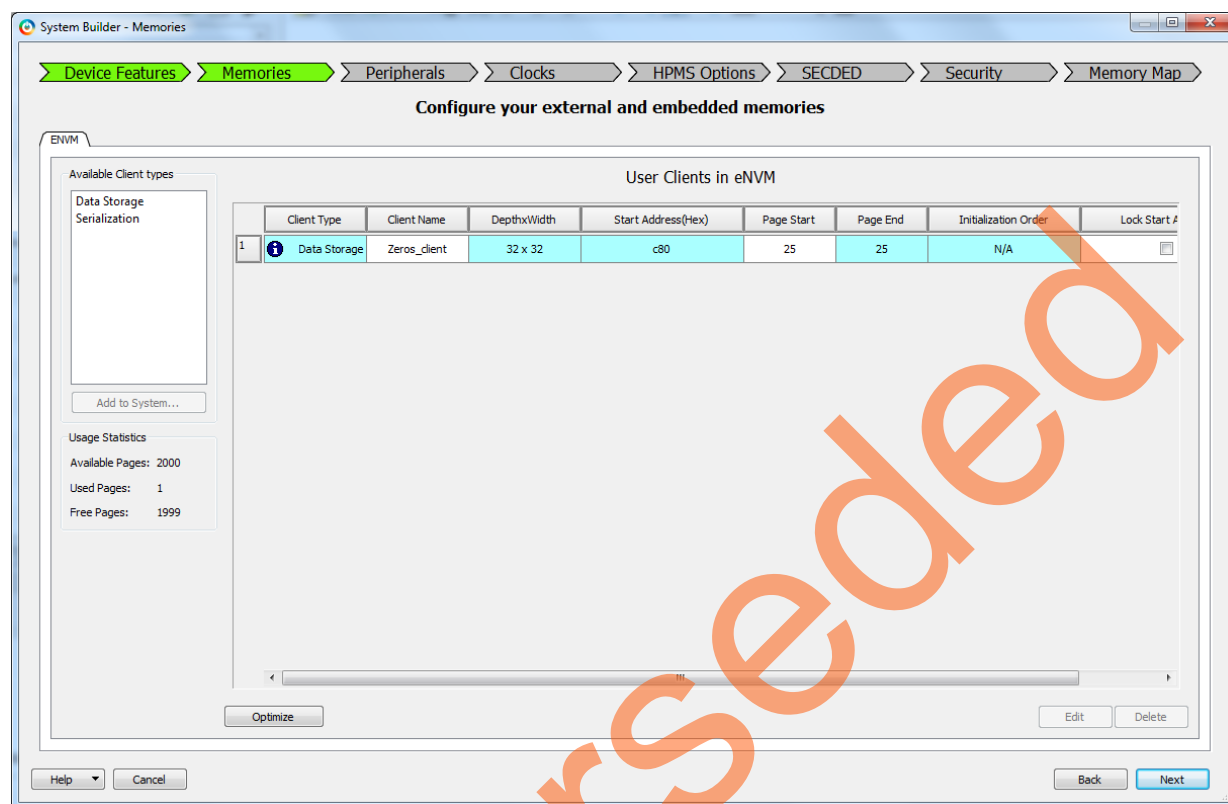

Figure 4 • IGLOO2 - Memories Page
2. In the **Memories** page, add **zeros_client** to initialize the eNVM with zeros. Figure 4 shows the **Memories** page with zeros client.